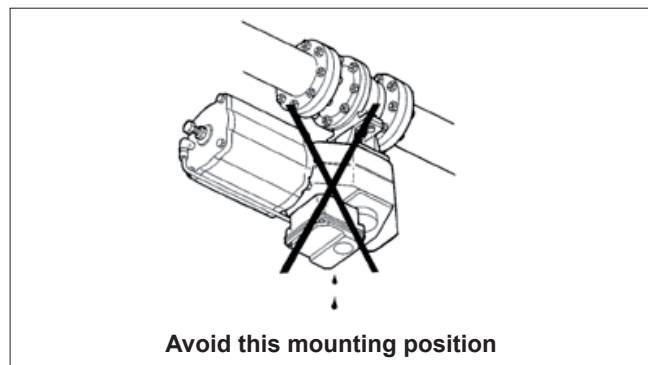

Figure 5.
7. It is not recommended to install the valve with the stem on the underneath side because dirt in the pipeline may then enter the body cavity and potentially damage the stem packing (see **Figure 5**).